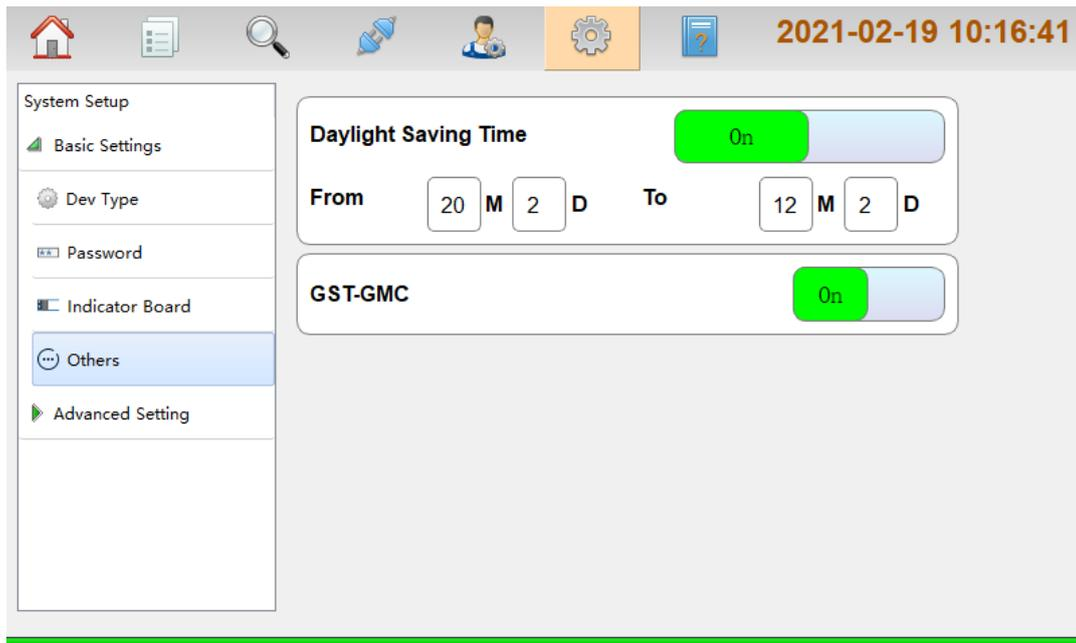

Fig. 5-6
- Others: Clicking **Others** enters the screen as shown in the figure below Fig.5-6. of Daylight Saving time adjust and GST-GMC function switch.